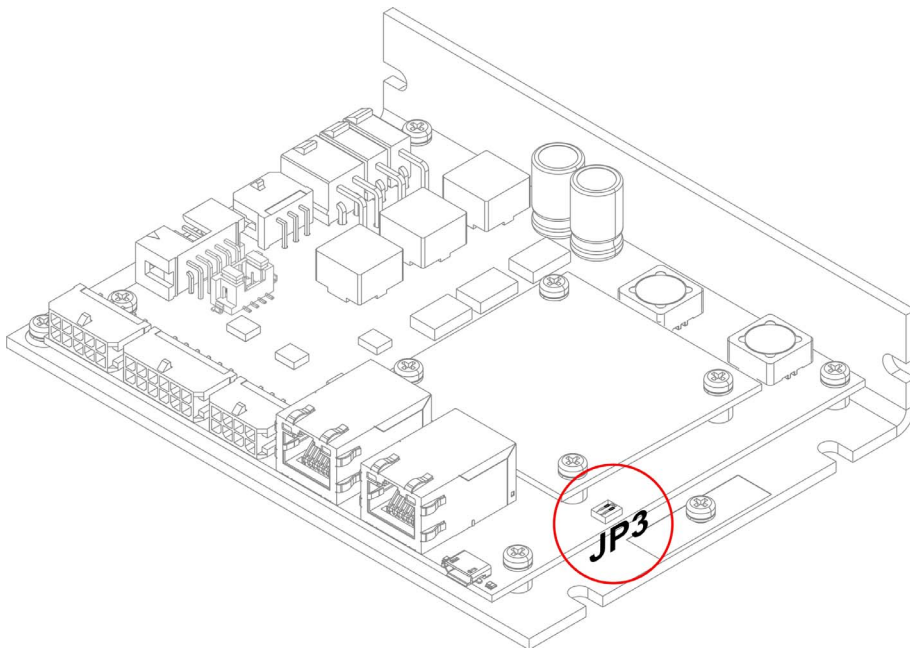

Figure 6-59 Safe Torque Off (STO) | MAXPOS 50/5 – Location JP3
- 2) Find jumper JP3 (→Figure 6-59).